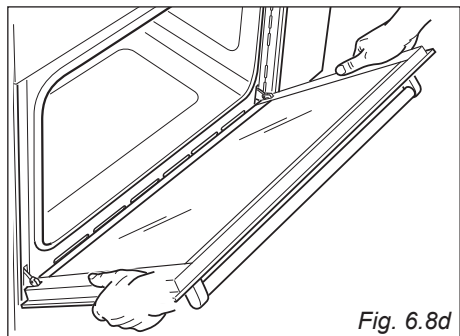

Fig. 6.8d
- Hold the door as shown in fig. 6.8d.